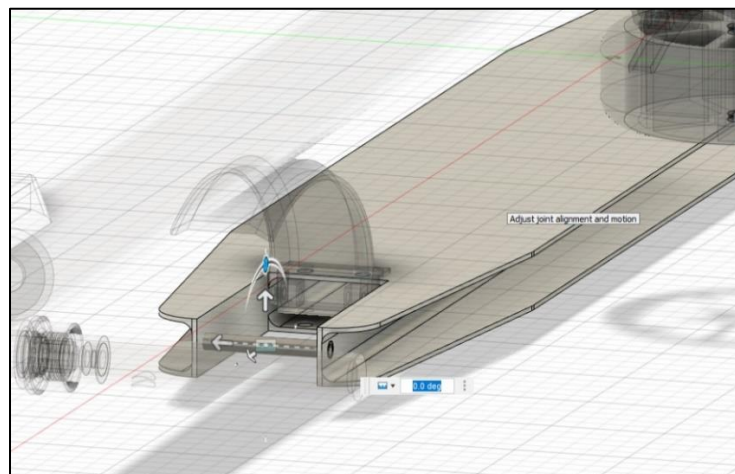

Figure 26. Joining the center axis of the shaft to the shaft of the wheel.
5. Use the join function again to assemble the rear wheel. Set mode to “Between two faces” and select the central axis of the shaft of the rear wheel as “Component 1”. Next, select the center axis of the back shaft hole of the deck as “Component 2”. Set motion to “Revolute”. (Figure 26)